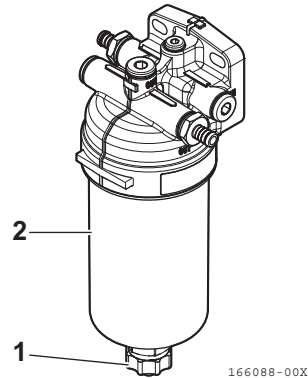

Figure 12
2. Remove the drain plug (**Figure 12, (1)**).
3. Remove the filter cover (**Figure 12, (2)**) with a wrench (Wrench across flat: 30).